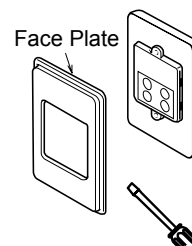

Fig. 3
4. Carefully remove face plate from water controller, using a screw driver. (Fig. 3)